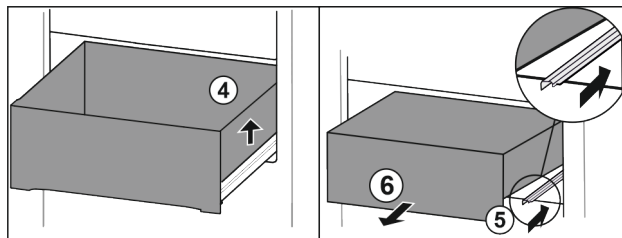

Fig. 106
- ▶ Lift drawer on the right. Fig. 106 (4)
- ▶ Insert right rail. Fig. 106 (5)
- ▶ Remove drawer to the front. Fig. 106 (6)